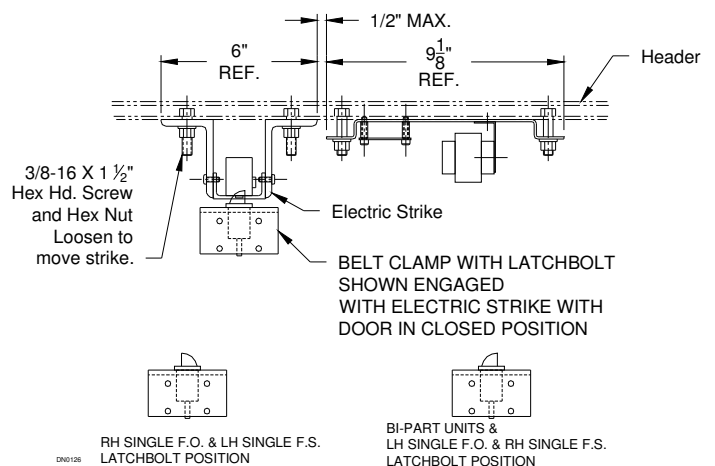

Figure 46
5. Each electric lock is factory installed and wired into the control box. The only adjustments required will be to the strike mounted in the header. It may be necessary to loosen the strike mounting bolts and slide the strike to align with the latch bolt in the fully closed position (See Figure 46).